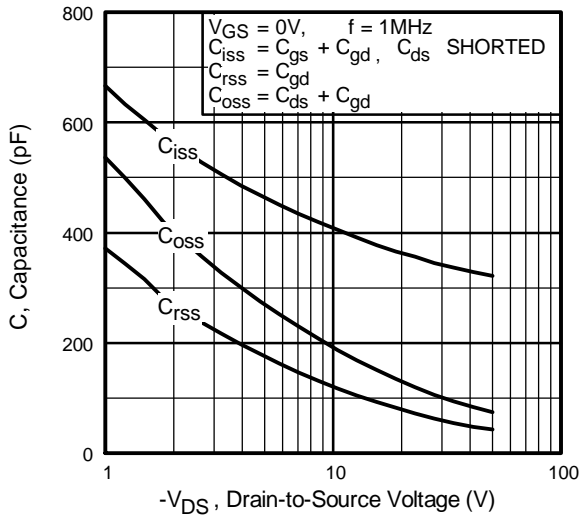

Fig 5. Typical Capacitance Vs. Drain-to-Source Voltage
| C_{riss} | Reverse Transfer Capacitance | — | 70 | — | | $f = 1.0\text{MHz}$, See Fig. 5 ⑥ |